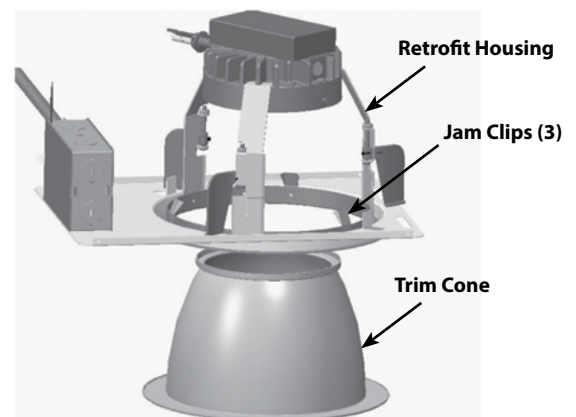

Fig.5.
5. Install **Trim Cone** in the **Retrofit Housing** as shown in **Fig. 5**. **Jam Clips (3)** will hold the **Trim Cone** in place.